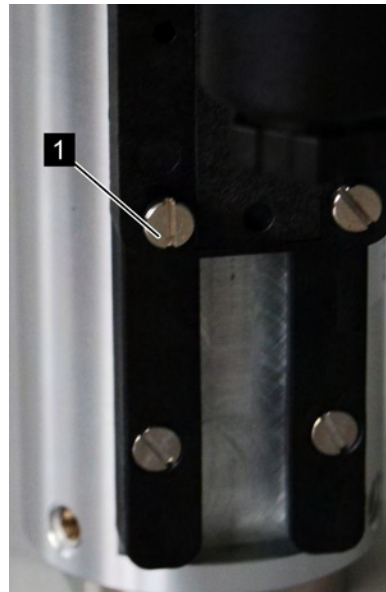

Fig. 31: Loosen set screws
2. Loosen the set screws of the switch contact (Fig. 31/1) using a flat-bladed screwdriver
6. → Re-tighten the set screws of the switch contact (Fig. 31/1) using a flat-bladed screwdriver. When doing so, observe the correct tightening torque of the screws.